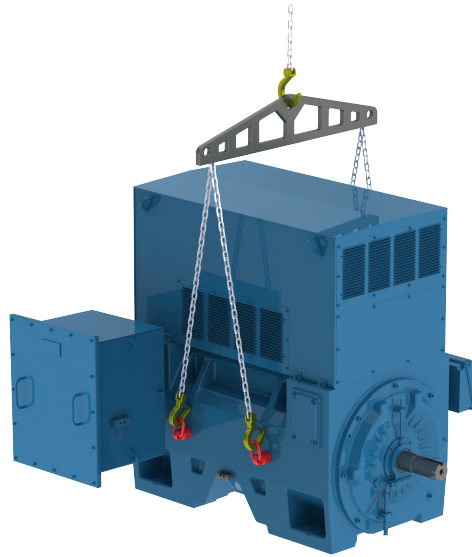

Figure 4.6: Lifting for W60 motors with paralel chains
- For W60 motors, as shown in Figure 4.6 on page 16, the use of a spreader beam is required for maintaining the lifting elements (chain or rope) in vertical position and thus preventing damage to the motor surface.